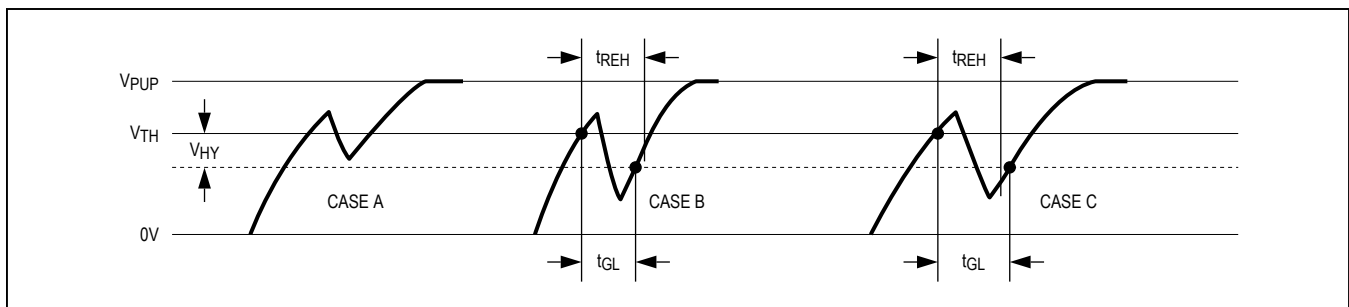

Figure 12. Noise Suppression Scheme
- 2) There is a hysteresis at the low-to-high switching threshold  $V_{TH}$ . If a negative glitch crosses  $V_{TH}$  but does not go below  $V_{TH} - V_{HY}$ , it will not be recognized (Figure 12, Case A).
- 3) There is a time window specified by the rising edge hold-off time  $t_{REH}$  during which glitches are ignored, even if they extend below the  $V_{TH} - V_{HY}$  threshold (Figure 12, Case B,  $t_{GL} < t_{REH}$ ). Deep voltage drops or glitches that appear late after crossing the  $V_{TH}$
threshold and extend beyond the  $t_{REH}$  window cannot be filtered out and are taken as the beginning of a new time slot (Figure 12, Case C,  $t_{GL} \geq t_{REH}$ ).